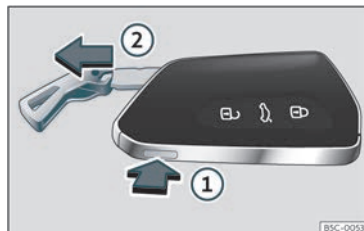

Fig. 75 Vehicle key: remove the key blade.
- If you press button >>> Fig. 75 ① once the key blade is unlocked and a ring appears as a key ring.
- Press and hold the button ① and at the same time pull on the ring in the direction of arrow >>> Fig. 75 ② to completely remove the key blade.